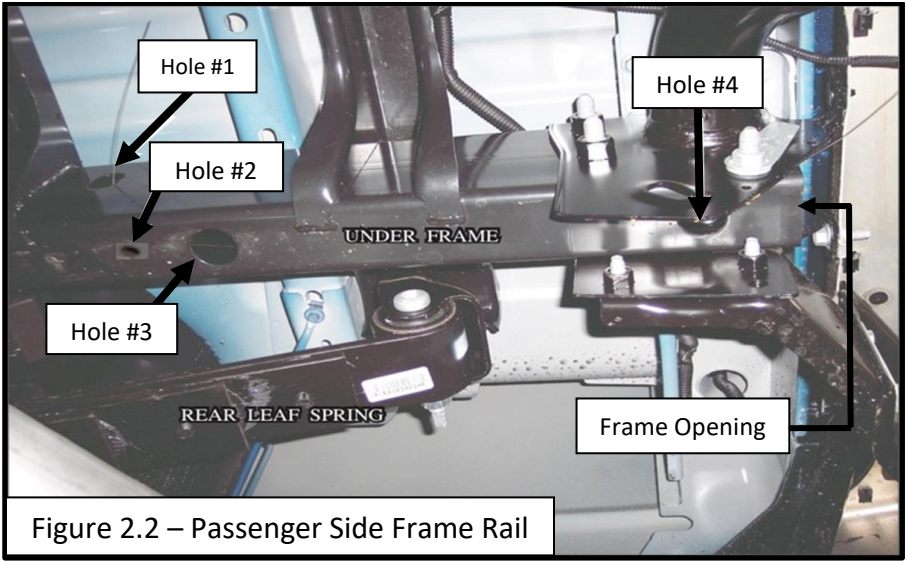

Figure 2.2 – Passenger Side Frame Rail
- Insert the hardware through Hole #1 in the frame rail, then pull on the wire end of the bolt fisher to seat the 1/2" x 2" Grade 5 Hex Bolt through the two washers. It may be necessary to temporarily remove the heat shield to access this hole. See figure 2.2.
- Insert the coiled end of the bolt fisher into Hole #2, and guide it out through Hole #3. See figure 2.2.
- Insert the coiled end of the bolt fisher into Hole#3, and guide it out through the opening in the end of the frame. See figure 2.2.